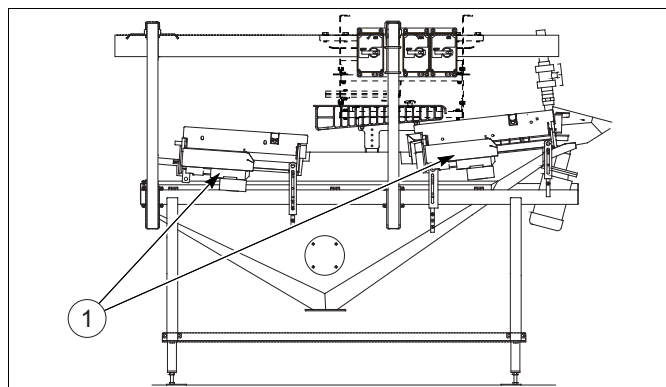

fig. 47 Lubrication
- Motor reducer 1, see fig. 47 and tab. 2.